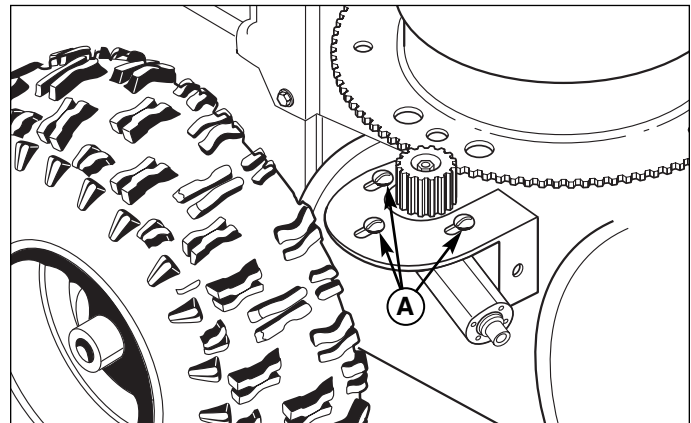

Figure 22. Chute Rotator Motor Adjustment
3. Loosen the screws (A, Figure 22) securing the rotator motor and adjust so that the motor gear and chute ring gear mesh. Tighten the capscrews.